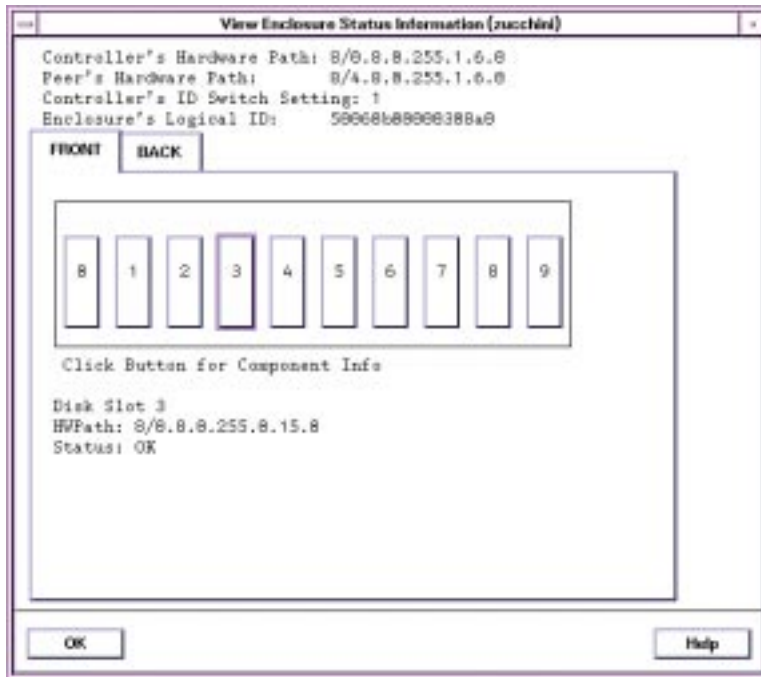
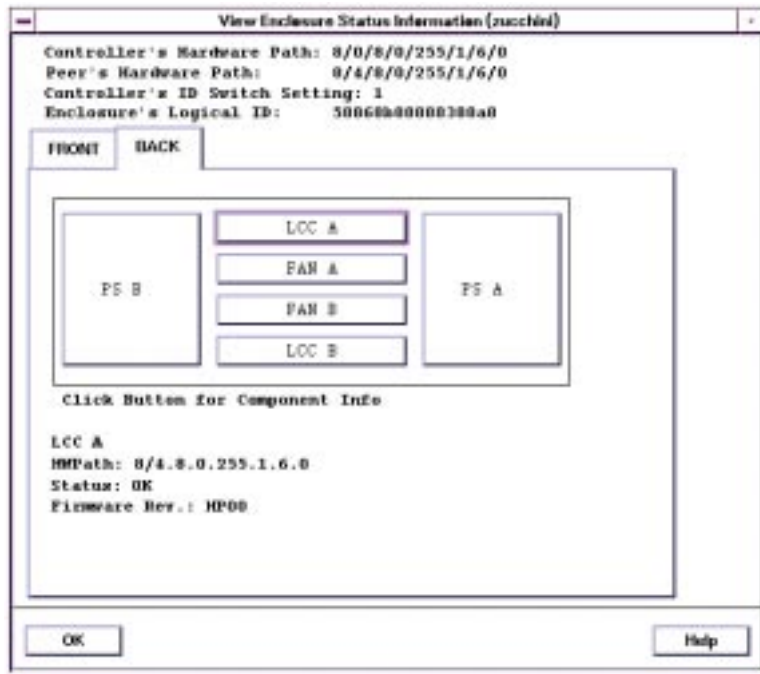

Figure 39 Sample Disk System Information Displayed by SAM – Front View
Figure 40 Sample Disk System Information Displayed by SAM – Rear View
4. Select **View More Info** from the Actions menu. A window displays header information and a graphical representation of the front of the disk system. See Figure 39.
5. For a view of the back of the selected disk system, click the "Back" tab. See Figure 40.
- To view component information, click the button representing the component. (The disk in slot 3 is selected in Figure 39. LCC A is selected in Figure 40.) SAM displays the following information about specific components: